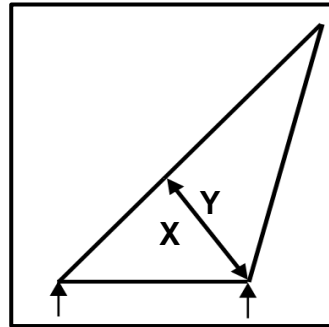

FIGURE 4.7
- (1)
- 4.7 Identify the nature of member **XY** in the steel framework shown in FIGURE 4.7 below.